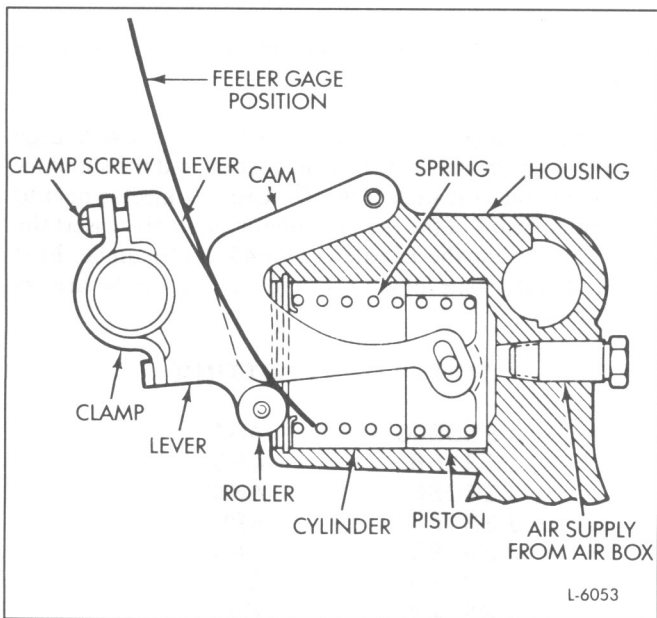

Fig. 9 - Fuel Modulator Assembly
The fuel modulator is mounted on the left-bank cylinder head between the No. 3 and No. 4 cylinders on 8V engines and consists of a cast housing containing a cylinder, piston, cam and spring (Fig. 9). The modulator mechanism is installed on the left bank between the No. 2 and No. 3 cylinders on 6V engines. A lever and roller assembly which controls the injector rack is connected to the injector control tube. An air supply line runs from the turbocharger discharge on the air inlet housing to the modulator housing, providing pressure to activate the piston.
3. Insert a .005" feeler gage between the modulator roller and cam (Figs. 9 & 11). The rack gage *must* fall over. The rack gage should stand at a 45 degree angle by itself when the .005" feeler gage is removed.
3. With clamp loose, push the air box fuel modulator lever assembly until the roller contacts the cam with sufficient force to take up the roller and cam pin clearances. Insert a 3/8" x 3" x .017" feeler gage between the cam and the roller (see Figs. 9 & 11). Make sure the cam is centered, and tighten the clamp screw until the gage falls. Replace the .017" thick feeler gage with a .004" thick gage and tighten the screw further until the gage falls again.